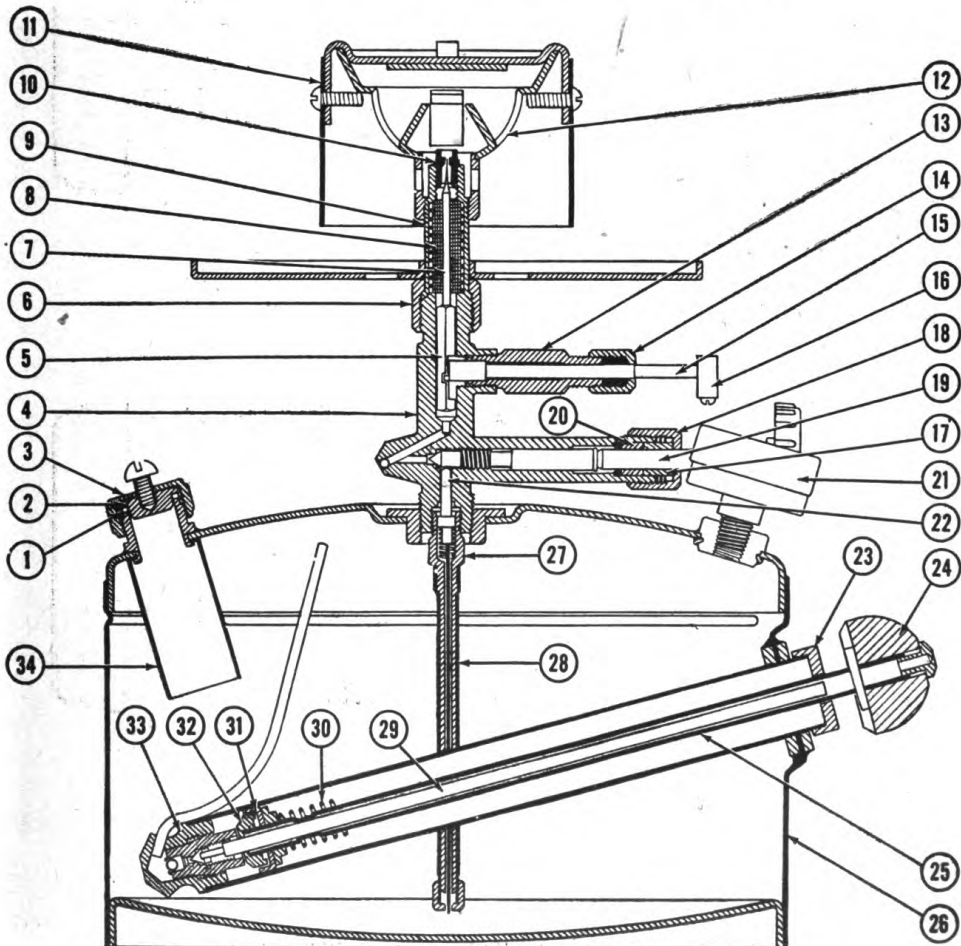

Figure 10. Cross section of burner, one 10,000 B.T.U. head. Item No. 9R10001.
a. AIR PRESSURE GAUGE. An air pressure gauge (fig. 10 (21)) is supplied with some of the burners and is located on the gasoline storage tank.
d. Fill the fuel tank by pouring fuel into the open filler tube. (See fig. 10 (34).) The fuel will begin to rise in the tube as soon as the tank has been filled to the proper level. The filler tube extends into the tank and prevents overfilling. When the liquid fuel reaches the bottom of the tube, air in the tank cannot escape and, consequently, the fuel begins to rise in the tube, indicating that the fuel tank is filled to the proper level. This feature of the stoves and burners assures adequate space for the air needed to generate the instant light mixture required to light them.
c. Hold thumb or palm of hand over vent hole in the end of pump handle and pump air into the tank until the air pressure gauge (fig. 10
a. Clean the gas tip of the vaporizer (figs. 10 (10) and 13) by revolving the eccentric stem handle (figs. 10 (16) and 13) several times. The handle must be in the down position when the stove or burner is lighted.
b. Open the fuel control valve (figs. 10 and 11) a quarter turn to the left (counterclockwise). After a few seconds, apply a lighted match at the top of the burner head. (See fig. 10 (12).)
c. Five or six minutes are required after the burner has been lighted for the vaporizer (figs. 10 and 13) to become sufficiently heated to cause complete generation of the fuel. The flame may flash yellow occasionally during this period or even blow itself out. If the latter occurs, relight the burner and as the vaporizer becomes heated the flame will gradually settle down to a steady blue color. During the first 2 or 3 minutes of operation maintain the air pressure at approximately 25 pounds by a few additional strokes of the pump. The pressure should then be allowed to drop to between 15 and 20 pounds, which is normal operating pressure for the larger burners. A few strokes of the pump on burner 9R10005 will also be sufficient. Proper air pressure can be maintained for models not equipped with pressure gauges through observation of the appearance and character of the flame. (As pressure becomes too low, the flame will tend to die down and to assume a yellow rather than a blue color.) It may be necessary to operate a stove or burner several times to determine accurately the number of strokes of the pump required to maintain proper air pressure.